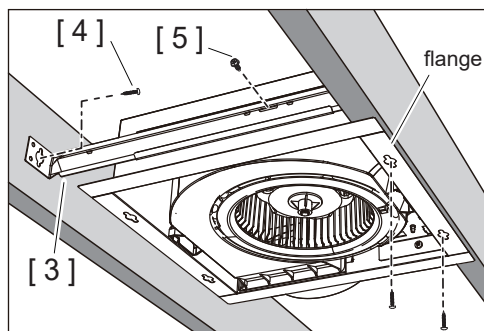

Fig 6
1. Insert Bracket [3] to the slot at the counter side of duct as figure shows. (Fig 6)
2. Position and hold the Fan Body [1] to the joist (truss or framing) as figure shows. Make sure the flange of housing is flush to the surface of joist. (Fig 6)
3. Secure the flange which is flush to the joist with Long Screws [4] as figure shows. (Fig 6)
4. Secure the Bracket [3] to joist with one Long Screw [4]. (Fig 6)
5. Install one Short Screw [5] to the hole of the Bracket [3] and secure. The hole should be close to the center of the slot. (Fig 6)